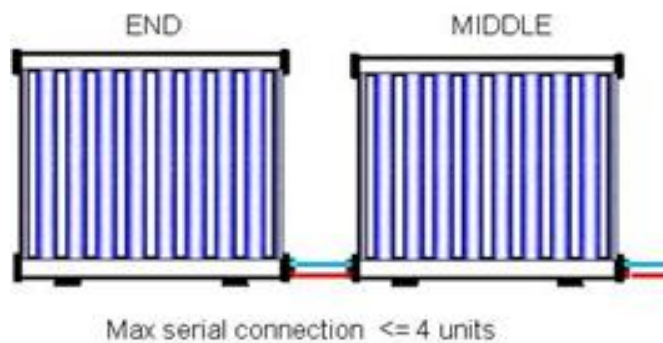

Figure 4.2: Serial connection of multiple panel installation (the maximum number in a serial connection is limited to 4 units).
4.2.1 **Serial Connection:** The evacuated tube batch collectors are designed for easy connection between multiple collectors in series. However, due to pressure and flow rate concerns, no serial bank of collectors should exceed 4 collector panels, as shown in Fig.4.2.